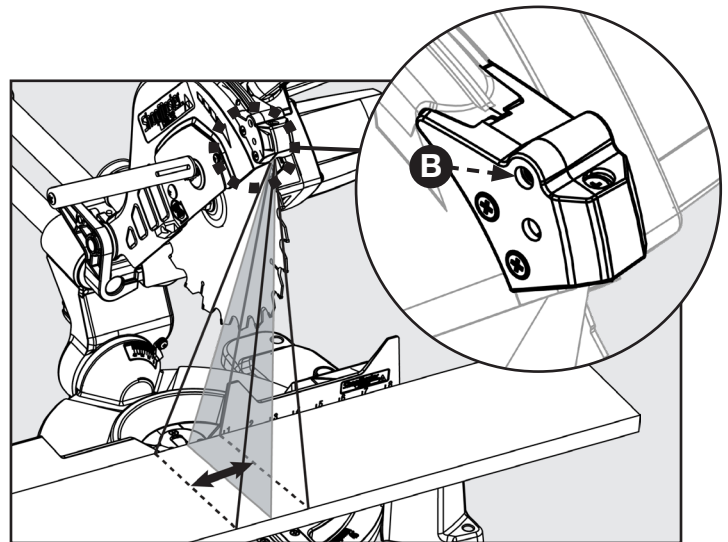

FIGURE 27
If you notice the laser line is offset from the actual cut line refer to Figure 27 and follow these instructions: using a Phillips head screwdriver turn the screw (B) to adjust the offset.